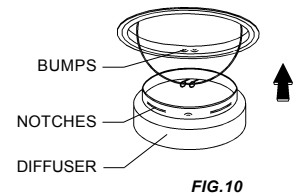

FIG. 10
1. Align the notches in the diffuser with the bumps or retaining tabs on the reflector. (Fig. 10, 11)
3. Pull out the socket cup. (Fig.10)